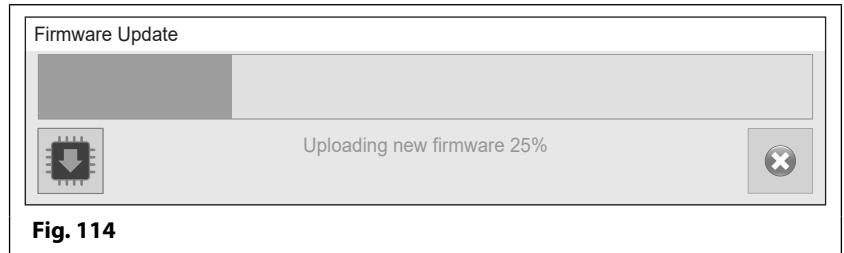

Fig. 114
3. Next click on the **OPEN** button and the latest firmware update will be uploaded to the GSM intercom, as shown in **Fig.114**.